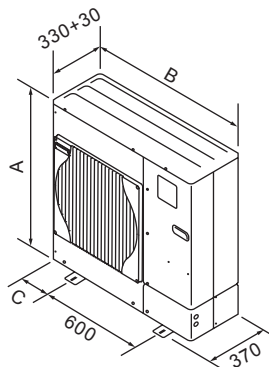

Fig. 1-1
■ Outline dimensions (Outdoor unit) (Fig. 1-1)